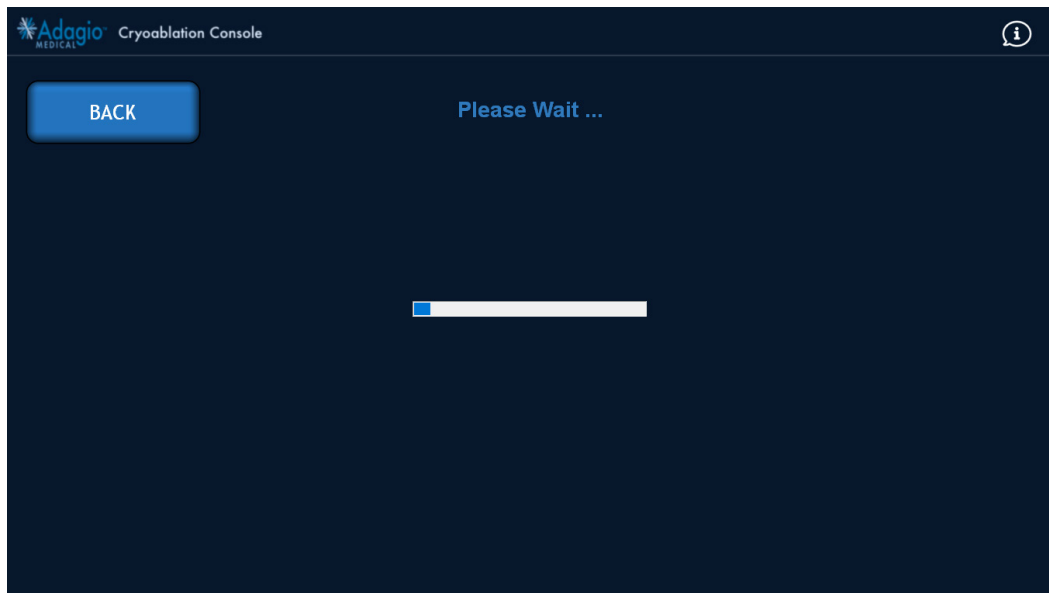

Figure 28 – Progress Screen Indicating Vacuum Pump Status Screen Image
3. The progress screen indicating vacuum pump status will show next (*Figure 28*).